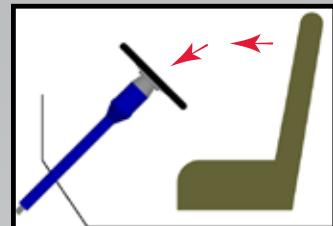

FIGURE 1
**LAP BELT** - Your lap belt creates a hinge that causes you to impact the steering wheel at a forward and downward arc. This means you will impact the wheel/collapsible column within intended angle. This scenario is most common with Street Rod columns, as they tend to have more of a vertical angle when installed in the firewall (see Figure 1).